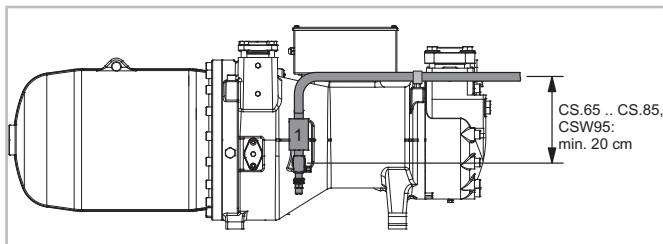
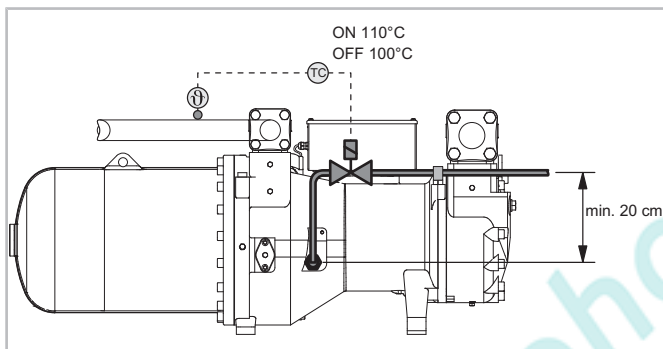

Fig. 5: Pipe layout of the ECO suction gas line at the compressor
Fig. 6: Pipe layout for liquid injection (LI) with liquid injection valve
Optional pipes for economiser (ECO) (not for CSH95), see figure 5, page 12 and/or liquid injection (LI), see figure 6, page 12 must first be routed upward from the connection. This avoids oil migration and damage to the components through hydraulic pressure peaks (see manual SH-170).